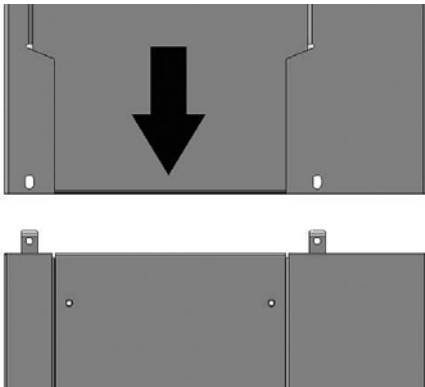

Fig. 11: Mounting the surface and thickness planer
Step 8: Lift the surface and thickness planer onto the machine base (Fig.11) with the help of a second person.